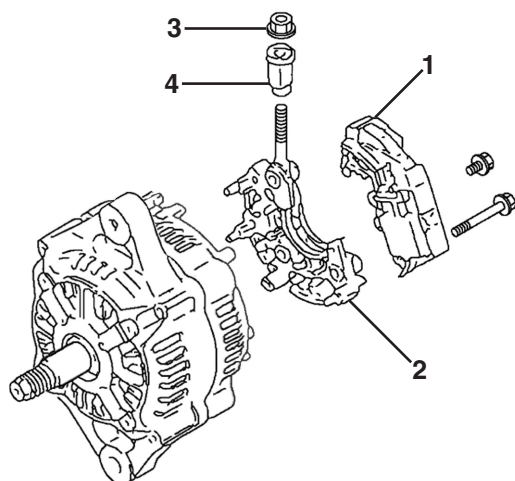

Figure 4-7-7
4. Remove the bolt retaining the regulator assembly (**Figure 4-7-7, (1)**) to the holder (**Figure 4-7-7, (2)**).
5. Remove the bolts retaining the holder (**Figure 4-7-7, (2)**) to the rear frame housing. Remove the holder.
6. Remove the nut (**Figure 4-7-7, (3)**) retaining the insulation bushing (**Figure 4-7-7, (4)**). Remove the insulation bushing.